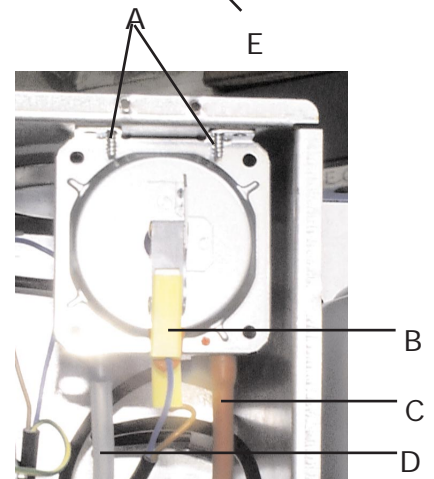

Fig. 33
7.06 Air pressure switch (fig. 33)